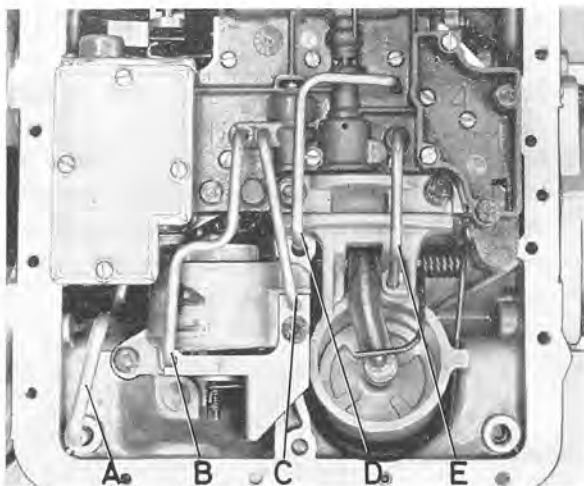

Fig. 4-80. Oil tubes
3. Unscrew the bolts for the oil pan and remove this. Lever out carefully the oil tubes B-E shown in Fig. 4-80.